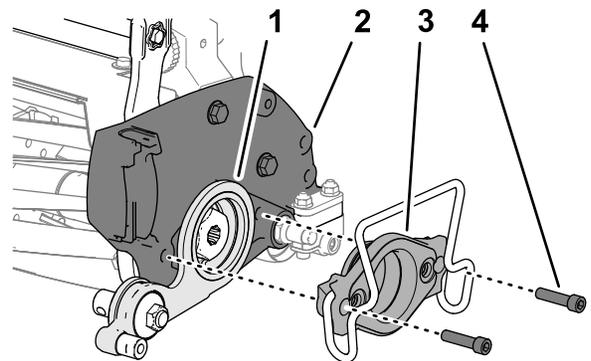

Figure 19
1. Align the idler assembly to the cutting unit as shown in Figure 19.
2. Align the idler plate to the side plate of the cutting unit as shown in Figure 19.
3. Assemble the motor mount through the idler plate and into the side plate of the cutting unit (Figure 19).
4. Assemble the mount to the plate (Figure 19) with the 2 socket-head screw (5/16 x 1-1/4 inches)